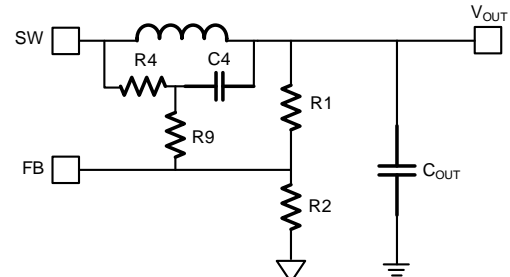

Figure 9: Simplified Circuit with External Ramp Compensation
Figure 9 shows the simplified circuit with external ramp compensation.
V_{OUT} is impacted by $R4$ in addition to $R1$ and $R2$ shown in Figure 9. $R1$ can be determined with Equation (5):